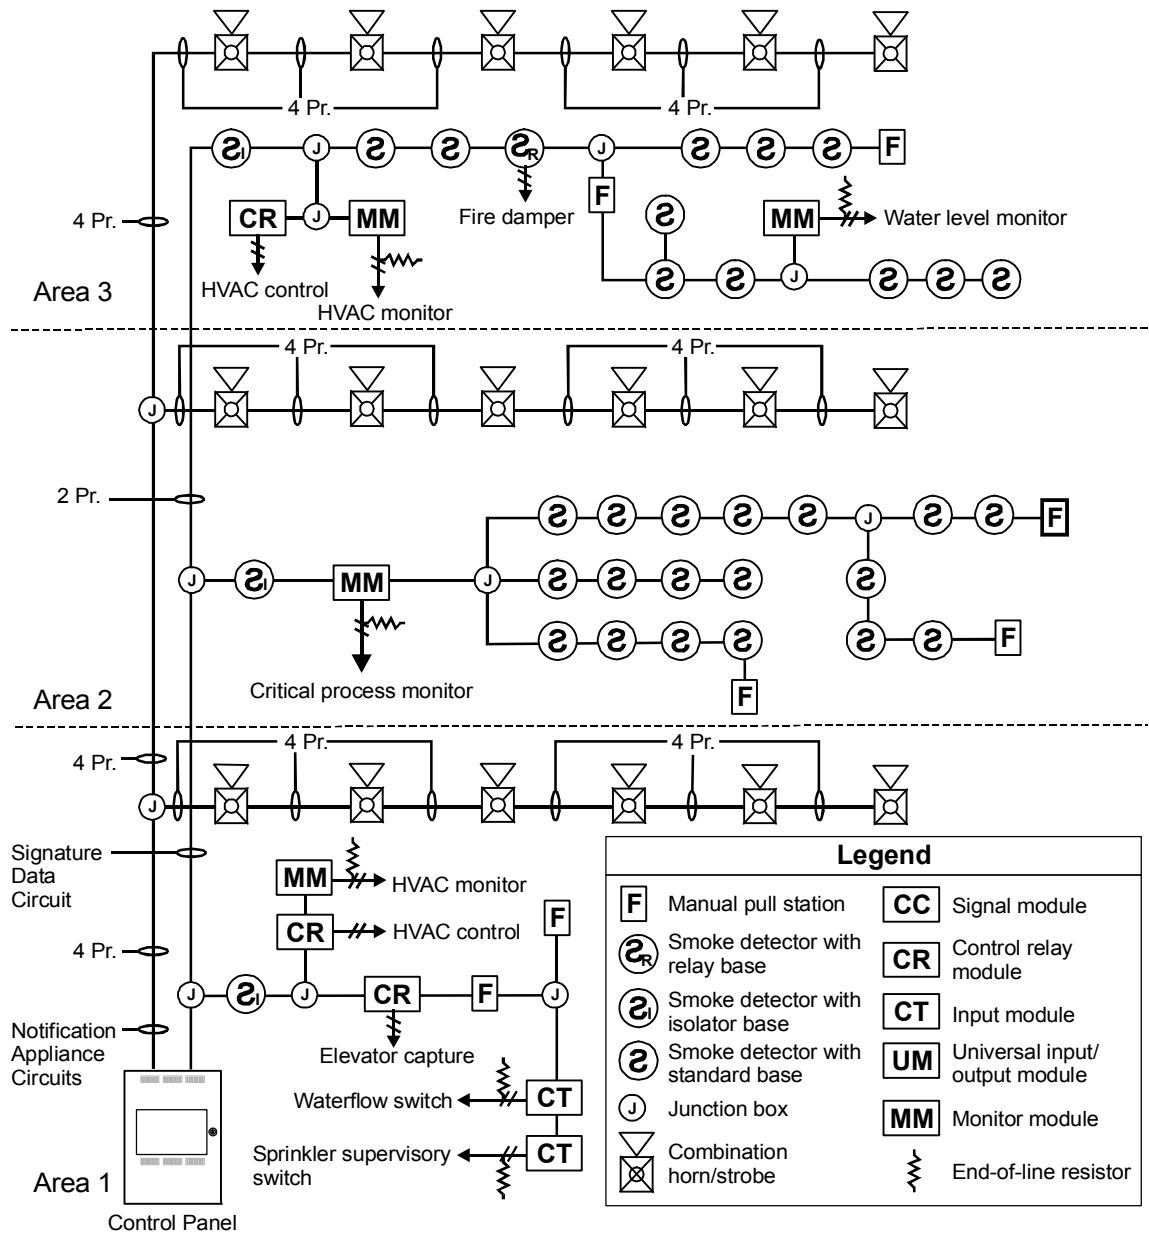

Figure 6: Typical Class A NAC wiring
- Class A (Figure 6)
- Figure 6: Typical Class A NAC wiring